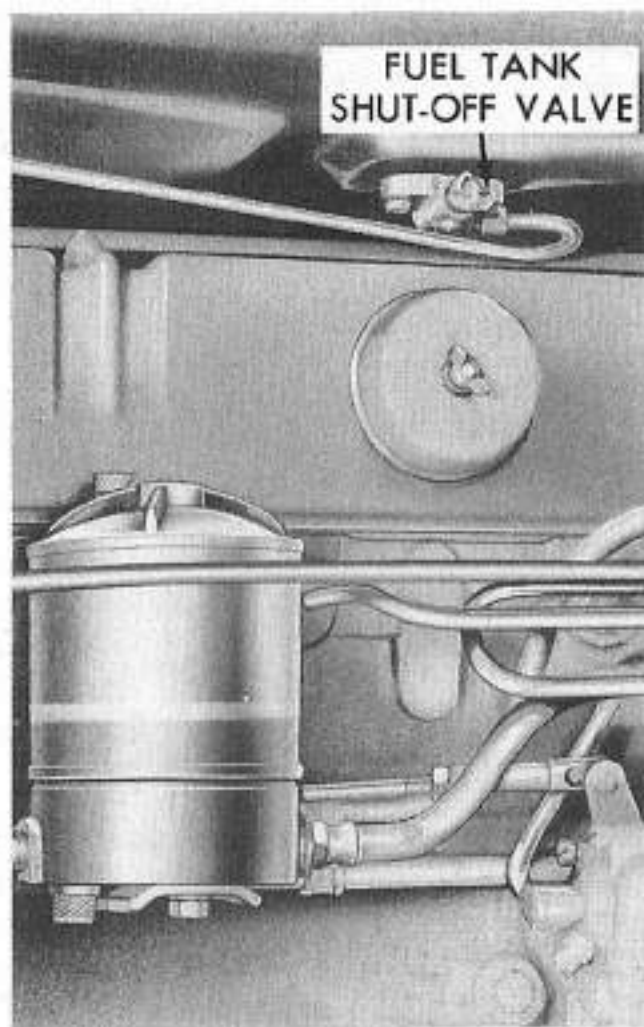

Fig. 7—Fuel Filter
1. Close the fuel shut-off valve located at the bottom center of the tank, Figure 7.
2. Open the drain cock at the bottom rear of the filter base, Figure 7, and drain the fuel into a drain pan.